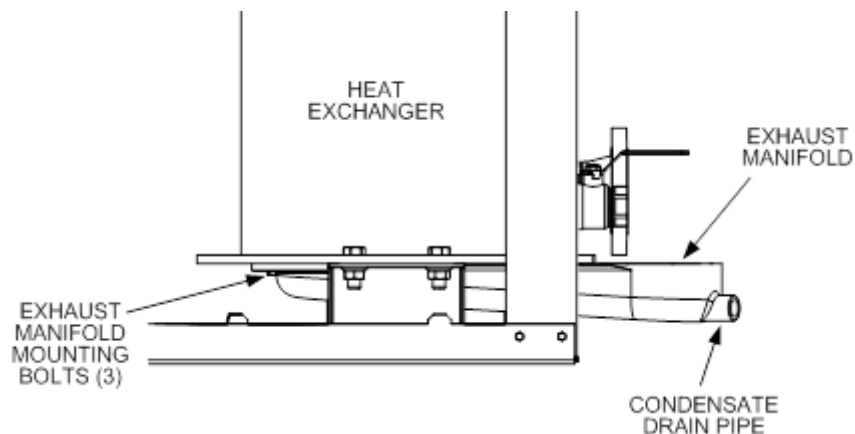

Figure 7. Benchmark 1.5LN Exhaust Manifold Location
The exhaust manifold of the Benchmark 1.5LN is installed at the rear of the unit, as shown in Figure 7. Perform the following steps to remove and inspect the manifold:
1. Remove the four (4) bolts securing the flue starter section collar to the top of the exhaust manifold.
4. Using a 3/4" socket wrench, remove the three bolts securing the exhaust manifold to the heat exchanger (Figure 7).